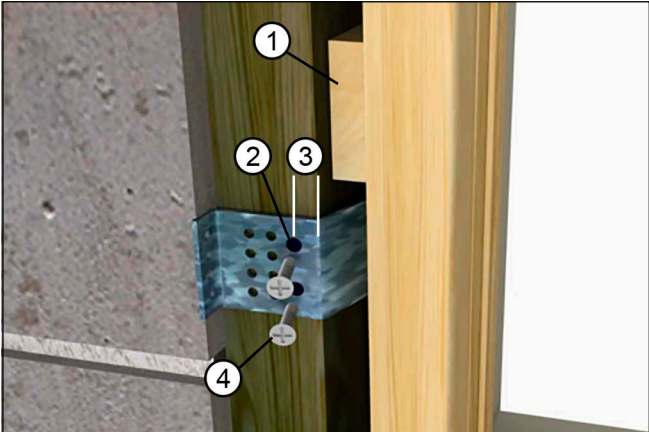

Figure 9
2. When using structural and mull brackets, bend brackets against wood framing as shown in Figure 9. Attach structural brackets to wood framing with two #8 x 1-5/8" screws per tab, making sure that the screws are no more than 1/4" from the bend in the bracket (edge of the wood buck). Angle the screws approximately 15 degrees toward the thicker part of the framing member.